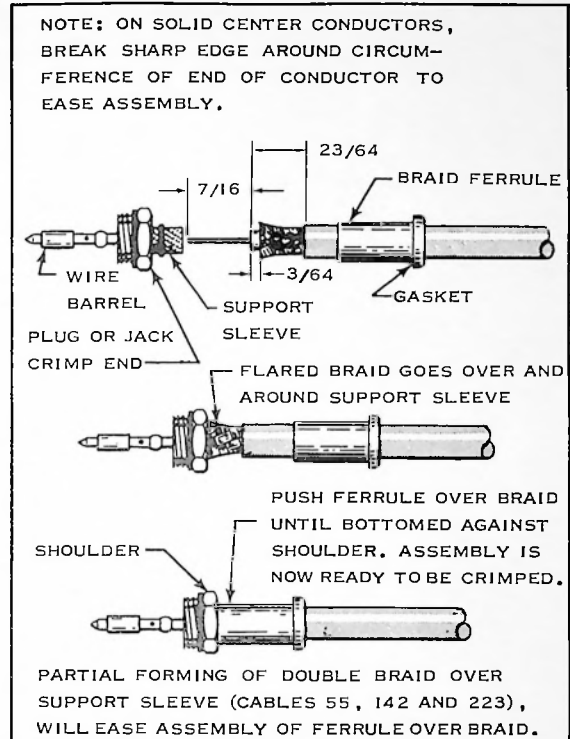

FIG. 3
- Slide Ferrule, with end containing Rubber Gasket first, on Cable. Strip Cable to dimensions shown in Figure 3.
- Flare Braid as shown in Figure 3.
- Hold Ferrule in place and insert stripped Conductor into Wire Barrel on Plug or Jack Crimp End. Twist Plug or Jack Crimp End slightly to ease entry of wire. Braid passes over and around Support Sleeve. See Figure 3.
- Slide Ferrule forward and over Support Sleeve on Plug or Jack Crimp End as far as it will go. Plug or Jack Crimp End is now ready to be crimped. See Figure 3.